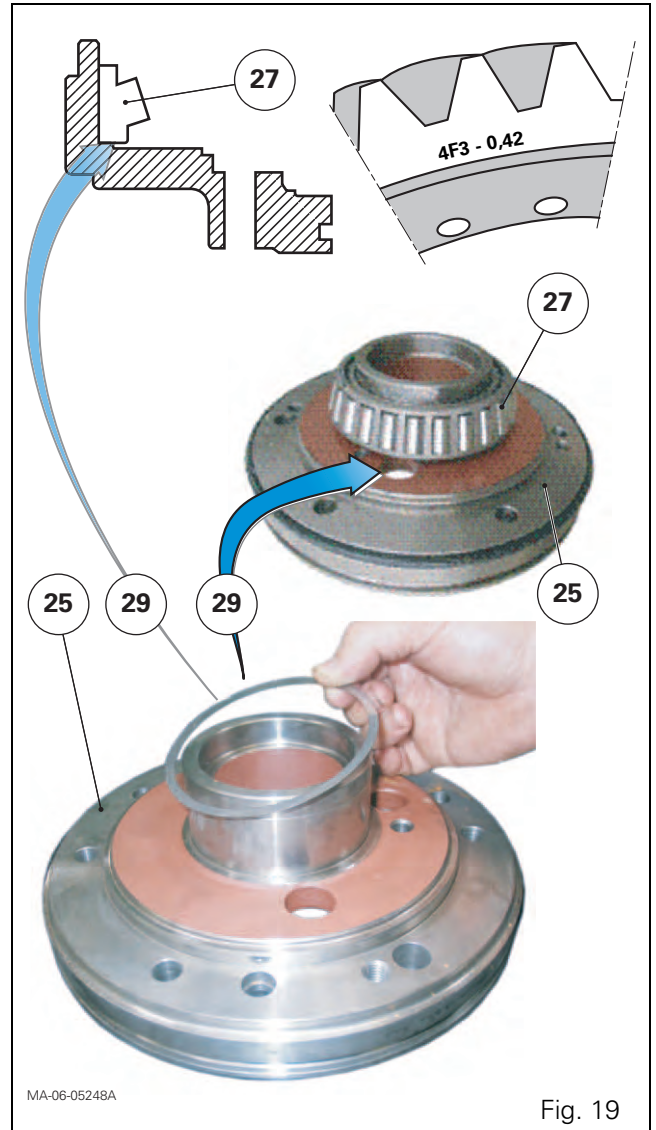

Fig. 19
NOTE: The DC (example: - 0.42) is engraved on the external surface of the ring gear (Fig. 19) after the number and pairing letter (4F3). It can be between 0 and - 0.60 mm.
IMPORTANT: When calculating E , ignore the negative sign preceding the DC (Fig. 19).
132. Fit the previously selected shim(s) (29) (Fig. 19) onto the right-hand differential support (25). Fit the bearing cone (27) against the shim(s) using a press.